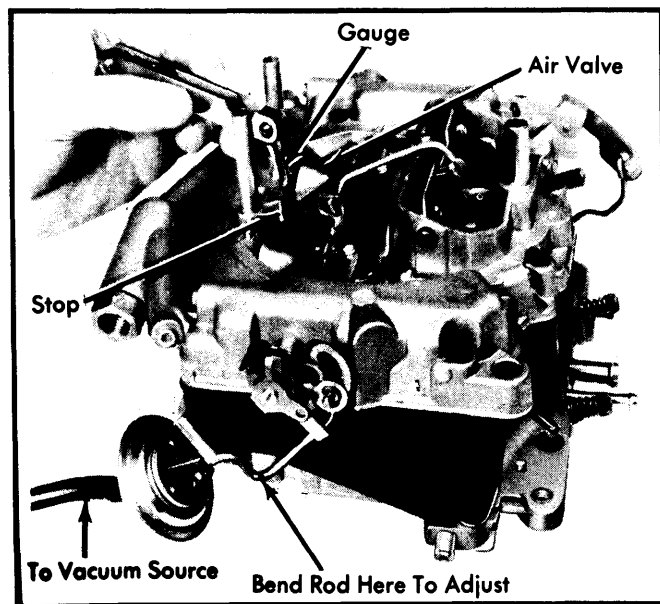

Fig. 7 Adjusting Choke Diaphragm Connector Rod
1) Make sure diaphragm is securely mounted to carburetor. Using an outside vacuum source, apply at least 15 in. Hg of vacuum to diaphragm. Make sure diaphragm stem is fully seated. See Fig. 7.